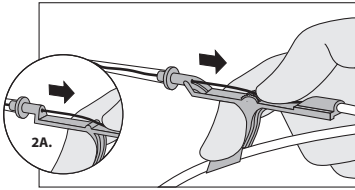

Figure 2
- Using thumb, retract "J" (refer to Figure 2 GlideWheel or 2A Standard Advancer depending on which Arrow Advancer is provided).